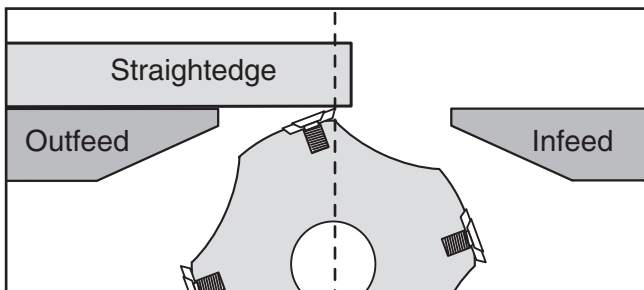

Figure 46. Using straightedge to check outfeed table height.
When correctly set, cutterhead insert will barely touch straightedge when cutterhead is rotated back and forth with pulley, as shown in **Figure 46**.
- Use outfeed table adjustment handwheel to set outfeed table height so cutterhead insert barely touches straightedge, as shown in **Figure 46**.